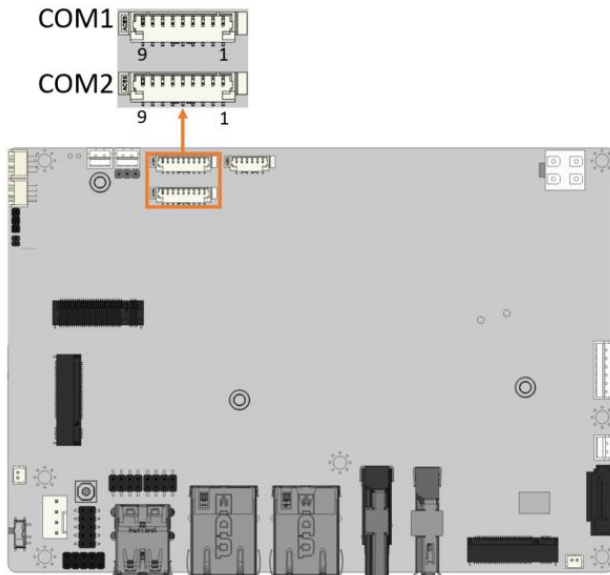

Figure 3-12: RS-232/422/485 Serial Port Connector Location
- CN Location:** See Figure 3-12